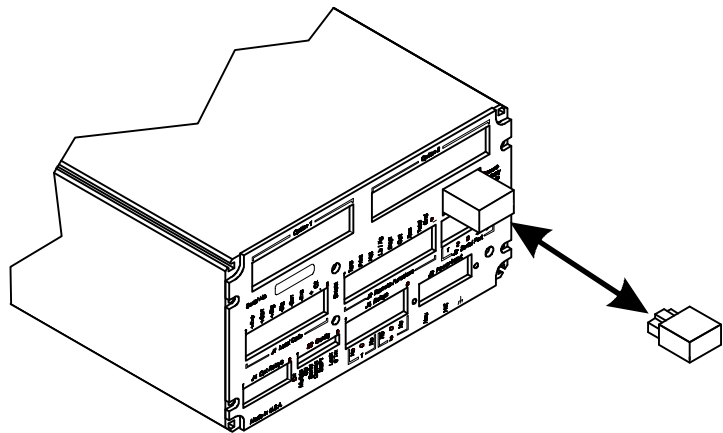

FIG. 3-17 INSTALLING AND REMOVING THE SECURE MEMORY MODULE
- Step 4. To remove the module pull the module straight out of the housing. (See Fig. 3-17)